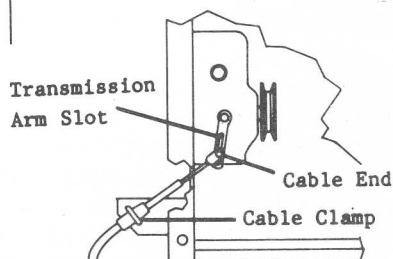

Figure 11B
8. If the steering levers will not rest against the front edge of the notch in the seat lid, the cables must be repositioned to prevent cable breakage. To correct, loosen the cable clamp at the base bracket (See Figure 11B) and pull the cable away from the transmission arm as far as possible and retighten the clamp. If the steering lever still will not bottom out in the notch, the cable clamp holes will need to be elongated. Once the cables are set where they do not bottom out, repeat Steps 4 through 5 to reset neutral.
10. To make the machine drive in a straight line, loosen the bolt on the cable end at the transmission arm on the side that the tractor veers toward. Slide the cable end forward in arm slot 1/8 to 1/4 inch and retighten bolt (See Figure 11B). Test drive machine again to check if further adjustment is needed. Once the machine is driving straight, you will need to repeat Steps 4 through 5 to reset neutral.